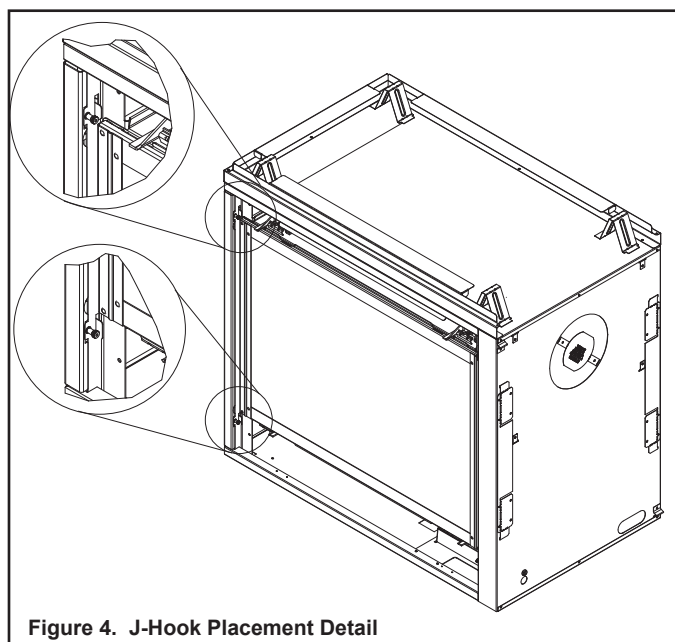

Figure 4. J-Hook Placement Detail
6. Visually inspect J-Hook connection points to assure proper placement. See Figure 4.